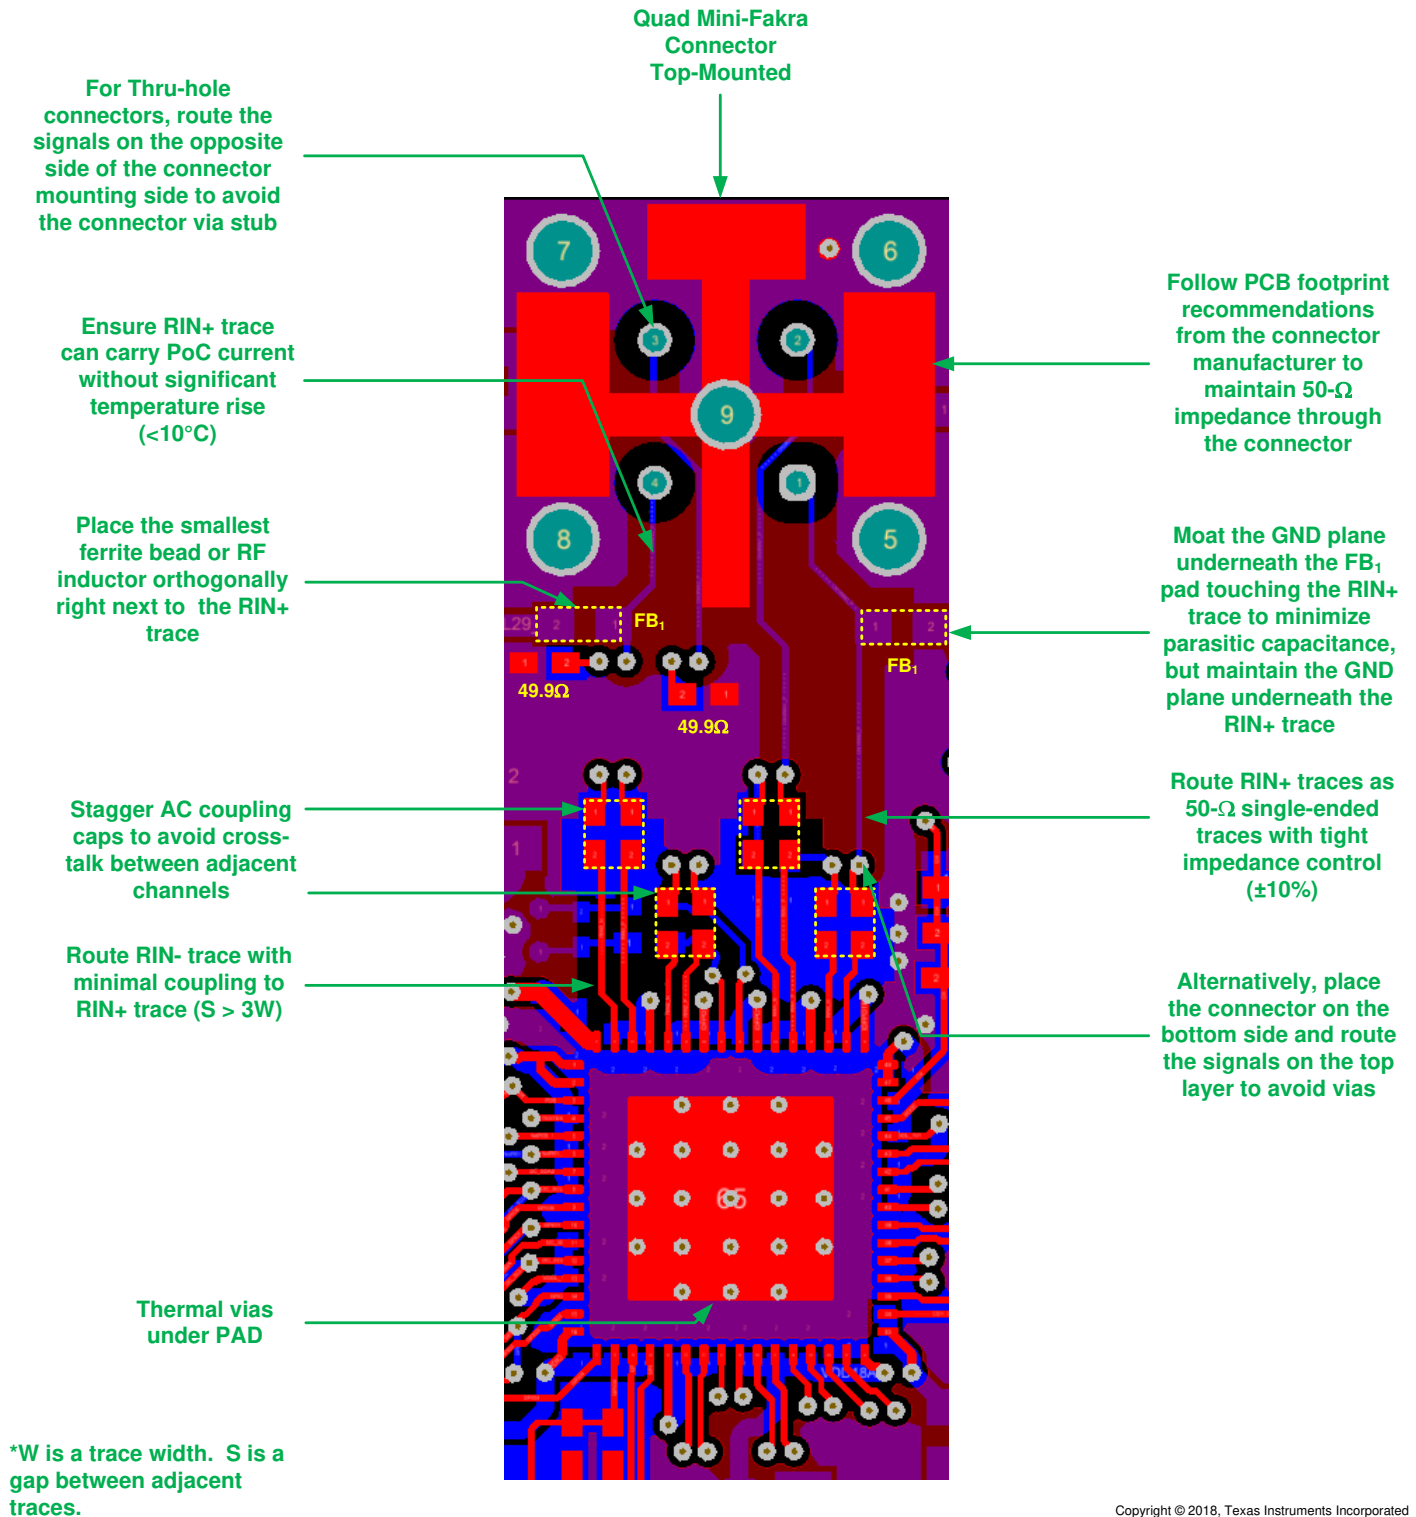

图 8-21. DS90UB960-Q1 Example PCB Layout With Quad Mini-Fakra Connector
**Figure 8-21** shows a PCB layout example derived from the layout design of the DS90UB960-Q1EVM Evaluation Board. The graphic and layout description are used to determine proper routing when designing the board. The high-speed FPD-Link III traces routed differentially up to the connector. A 100- Ω differential characteristic impedance and 50- Ω single-ended characteristic impedance traces are maintained as much as possible for both STP and coaxial applications. For the layout of a coaxial interconnects, coupled traces should be used with the RINx- termination near to the connector.